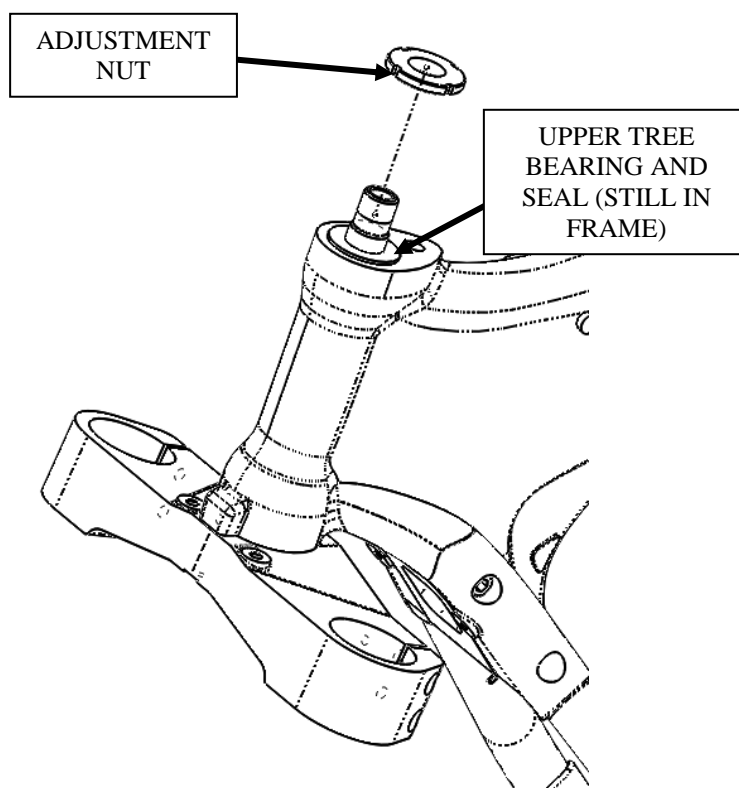

Figure 22: Install the lower tree assembly.
4. Slide the new lower tree assembly into the frame neck and slide the upper bearing and seal onto the steering stem. Loosely thread the steering adjustment nut (shoulder down) onto the steering stem. See Figure 22.